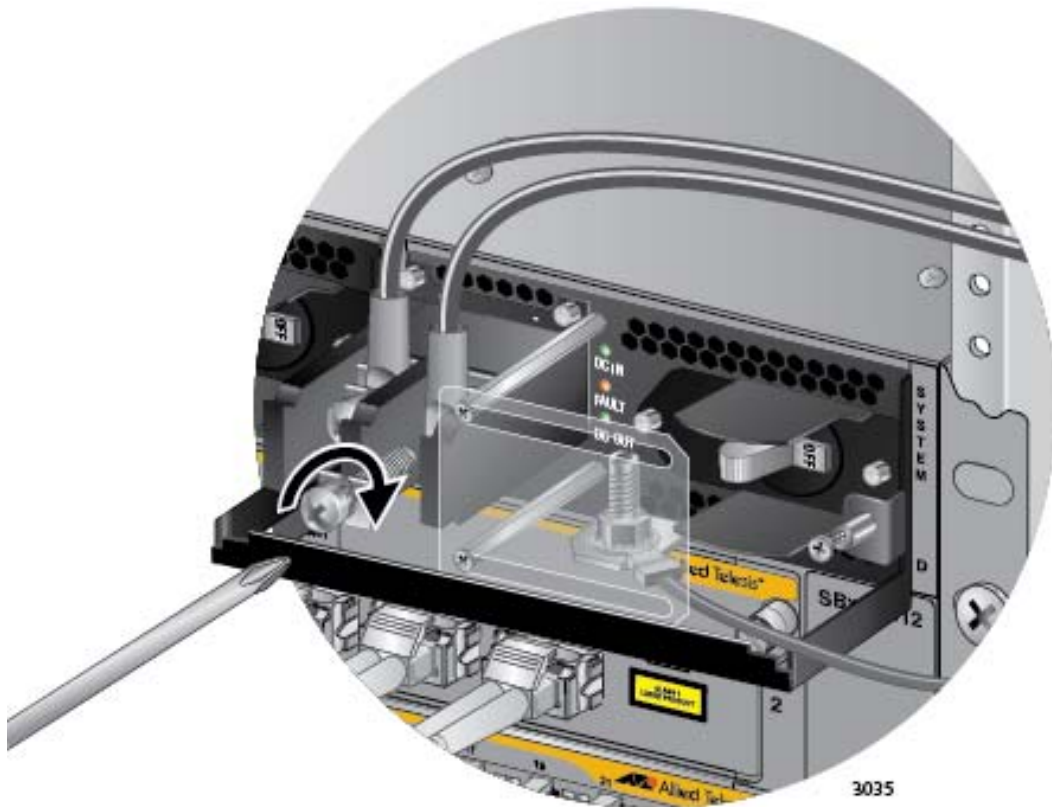

Figure 115. Connecting the Negative (-) Power Wire with a Straight Terminal
7. With a #3 Phillips-head screwdriver, connect the negative (-) power lead wire to the negative terminal on the power supply, with the remaining terminal screw removed in step 5. The negative terminal is on the right. You may attach the terminals with the wires either above or below the terminal block. Figure 115 on page 162 shows the wires above the terminal block.